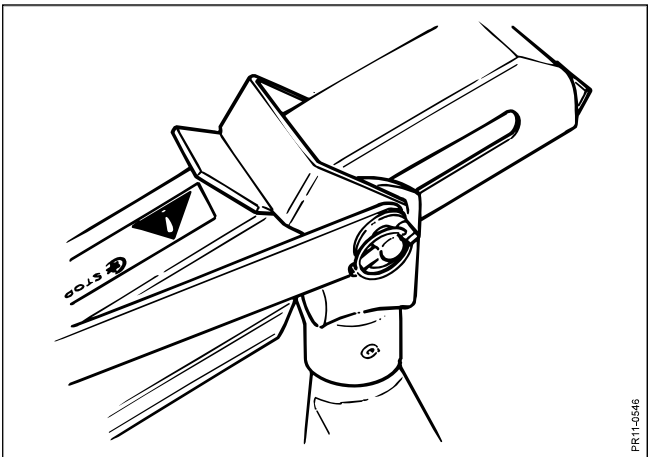

Fig. 2-8
- Fig. 2-8:** In addition, the machine is equipped with a parking lock (yellow) which must be tipped back before working in the field.